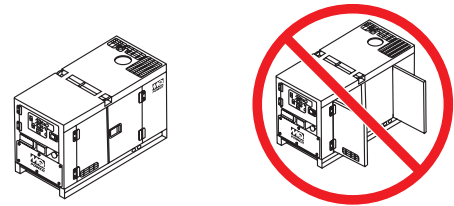

Figure 3. Engine Enclosure Doors
- Close all engine enclosure doors (Figure 3).